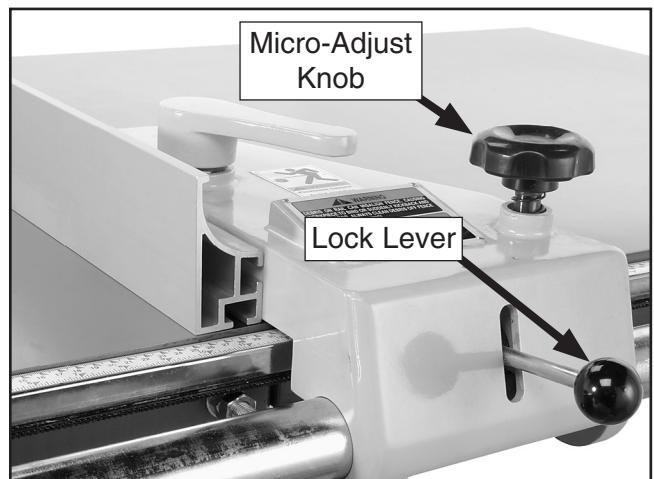

Figure 56. Rip fence micro-adjusting controls.
6. Push down on the rip fence micro-adjust knob (Figure 56) and turn it to precisely set the width-of-cut.